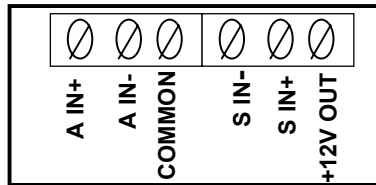

Figure 14
7. Insert the sensor’s +DC power input wire into the **+12V OUT** terminal and secure the wire by turning the terminal’s screw clockwise. *(Refer to the MX001 box or to Figure 14 for the order of the terminals for the sensor wires.)*